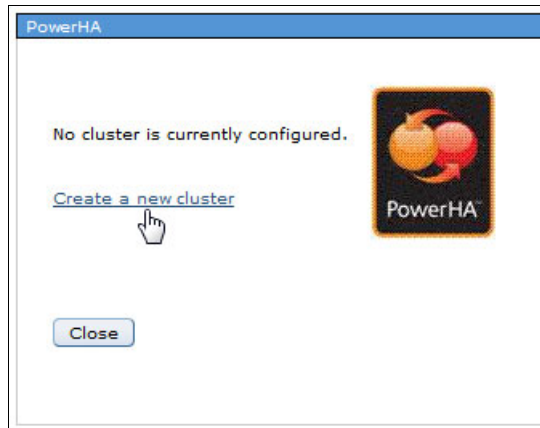

Figure 4-7 Creating a cluster
- As shown in Figure 4-7, there is no configured cluster. Click **Create a new Cluster** to start the cluster creation wizard.